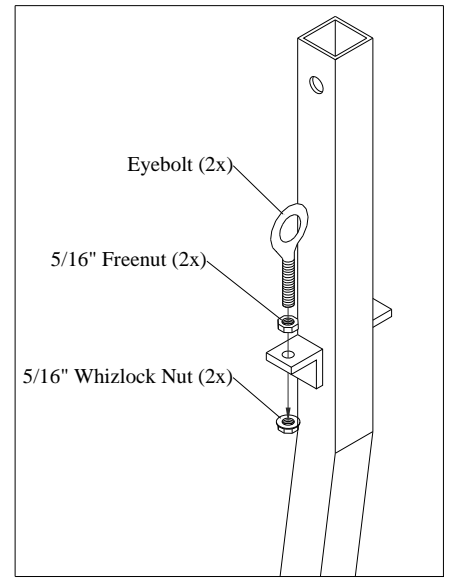

Fig. 3
3. Attach eyebolts (18) to vertical upright upper brackets, trapping the brackets between 5/16" hexnut and 5/16" whizlock nuts. Rotate eyebolts so eyelets face from front to back. **Fig. 3**